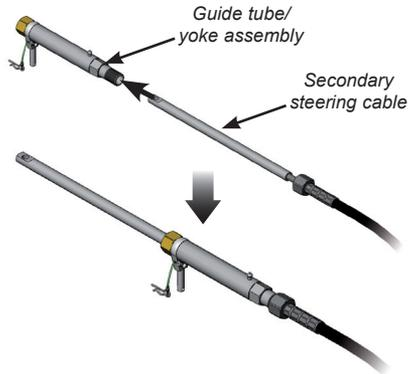

Fig B15 - Fitting the secondary steering cable to the guide tube
- ii) Insert the rod end of the secondary steering cable into the threaded end of the guide tube (Fig B15).